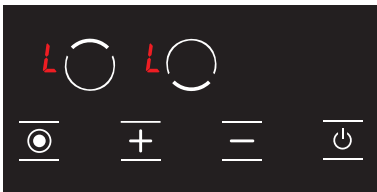

Figure 17
1. The  icon is displayed on all displays when the stove is on and the child lock is active. (see Fig. 17) The  and  icons are displayed alternatively if any hob is hot. You may turn the stove on or off with the  key only.